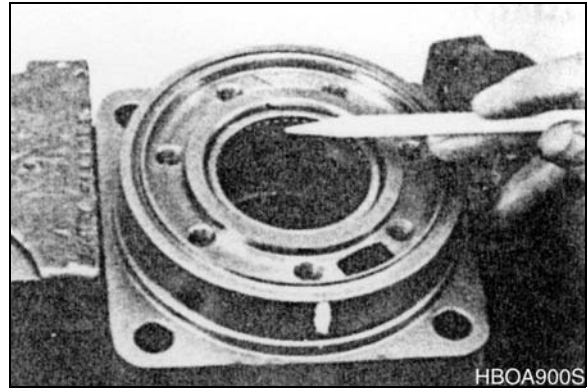
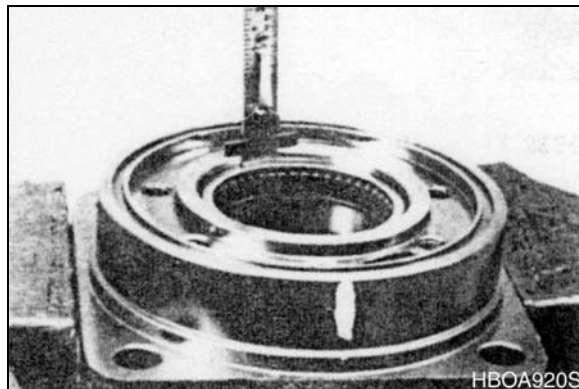

Figure 29
Figure 31
21. If the housing (18) assembly has passed inspection to this point, inspect the housing bearings/bushings (19) and (13) and if they are captured in the housing cavity the two thrust washers (14) and thrust bearing (15). The bearing rollers must be firmly retained in the bearing cages, but must rotate and orbit freely. All rollers and thrust washers must be free of brinelling and corrosion. See Figure 29. The MG Series bushing (19) or (13) to coupling shaft diameter clearance not exceed .010 inch (0.025 mm). A bearing, bushing, or thrust washer that does not pass inspection must be replaced. See Figure 31. If the housing has passed this inspection the disassembly of the Torqmotor™ is completed.
NOTE: *The depth or location of bearing/bushing (13) in relation to the housing wear plate surface and the depth or location of bearing/bushing (19) in relation to the beginning of bearing/bushing counter bore should be measured and noted before removing the bearings/bushings. This will facilitate the correct reassembly of new bearings/bushings. See Figure 31.*